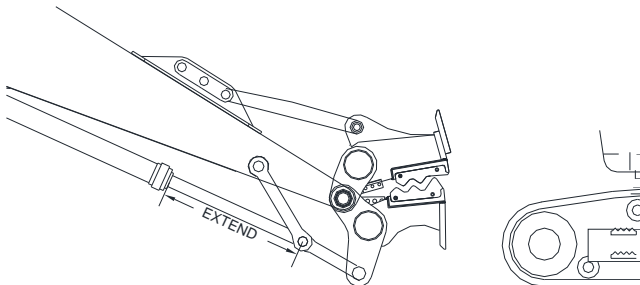

Fig. 5-2 Mounting Pad Installation
1. Position the stick as shown in Fig. 5-2.